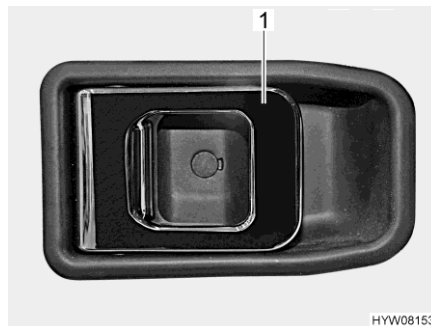

Fig. 56 Door lock (driver's door, inside)
- Pull on the handle (Fig. 56,1). The door lock is unlatched or opened.
- Push the handle (Fig. 56,1). The door lock is locked.